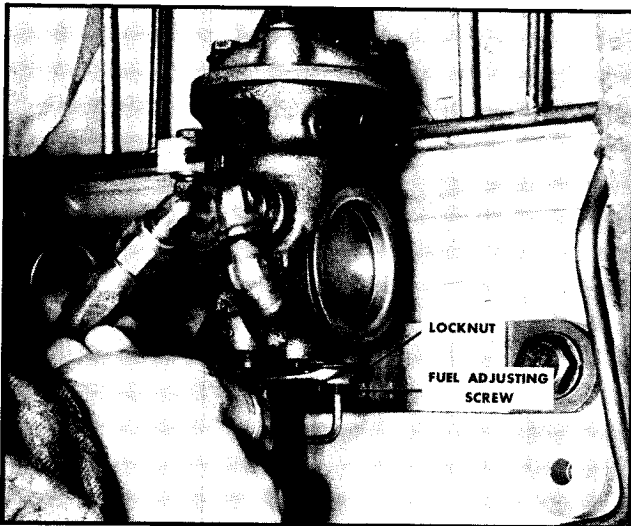

Fig. 12-91. Locking aneroid fuel adjusting screw
7. Lock aneroid fuel screw in position with locknut; shut down engine. Fig. 12-91.